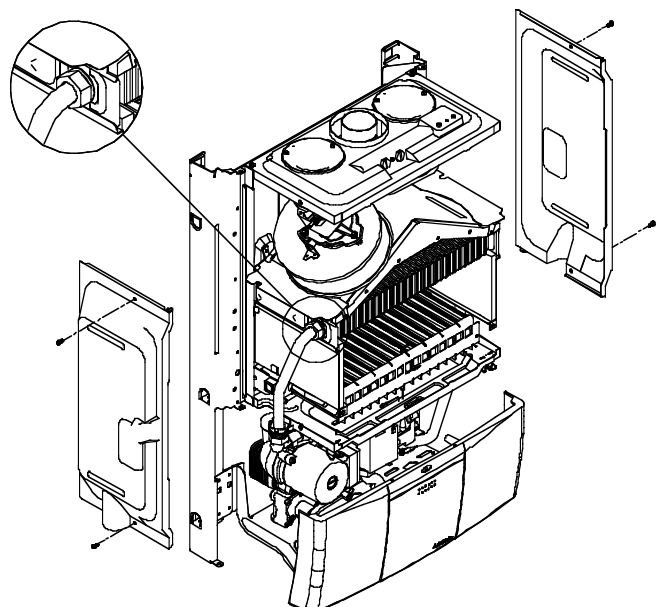

Fig. 29a
- 8.6.4 Remove four burner retaining screws (fig. 29a&b). Ease burner forward and rest on chamber base (fig. 28a&b).
8.8.8 Unscrew unions on either side of main heat exchanger fig. 29a&b.